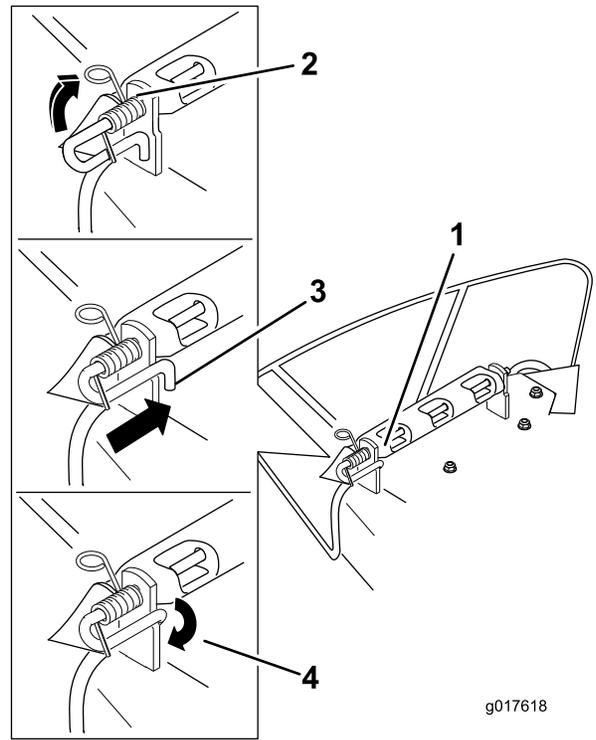

Figure 62
- Secure the rod and spring assembly by twisting it so the short end of the rod can be placed behind the front bracket welded to the deck (Figure 62).
- Lift the loop end of the spring and place it into the notch on the deflector bracket (Figure 62).